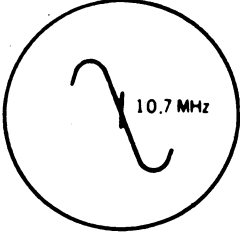

Fig. 5
| (7) | " | " | " | " | T3 (FM 2nd IFT) Adjust for maximum amplitude. (Refer to fig. 5). |